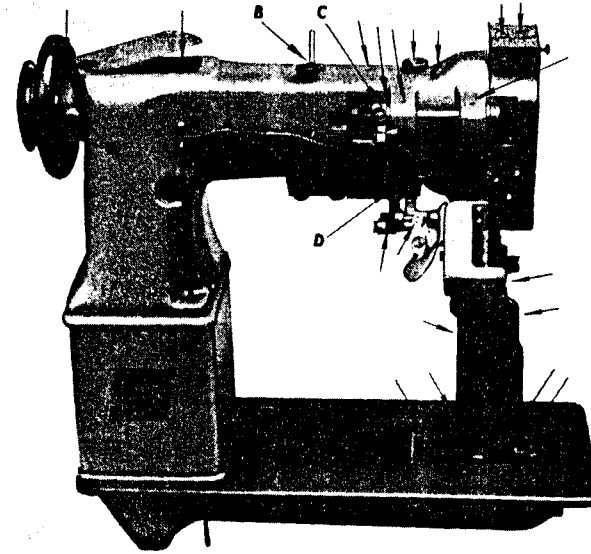
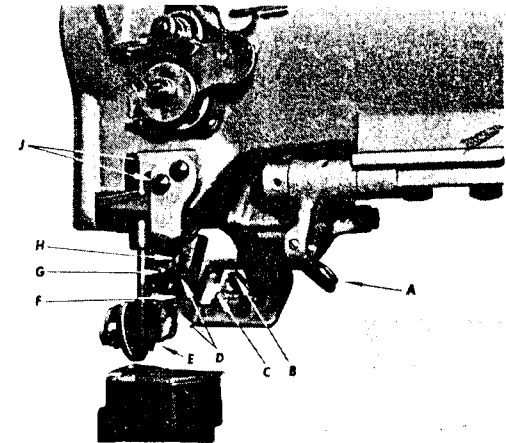

Fig. 12. Back View of Machine, Showing Oiling Points
Fig. 15. Adjustments on Trimmer
The pressure on the material is regulated by the hexagon screw (B, Fig. 12) at the back of the machine, the screw acting on a flat spring. To increase the pressure, turn the screw downwardly. To decrease the pressure, turn the screw upwardly.
The knife (C, Fig. 15) should be set so that its cutting edge presses against the cutting edge of the throat plate to ensure making a shear cut.
The sidewise adjustment of the knife is made by loosening the screw (B, Fig. 15) and moving the knife to the right or left, as may be required, after which tighten the screw (B).
To throw the knife out of action, release the knife unlocking lever (A, Fig. 15) by pressing it between the thumb and forefinger of the right hand and move the knife driving arm as far back as it will go.
The knife (C, Fig. 15) should be timed so that it is at its most forward position toward the operator and 1/32 inch in front of the needle when the needle bar is at its lowest point. In case the knife is not correctly timed, loosen the screw (C, Fig. 12) at the back of the machine and raise or lower the knife driving connection (D, Fig. 12), as may be required, then tighten the screw (C).
The edge guide (E, Fig. 15) can be adjusted so that the knife will trim the edge of the under ply of material from flush up to 1/8 inch under the edge of the upper ply. To change the distance from the edge of the upper ply to the line of stitching, loosen the two screws (J, Fig. 15) and move the edge guide bracket to the right or left, as required, then tighten the two screws (J).
The edge guide should be adjusted to a height that will permit the knife to pass freely under it, the edge guide lightly touching the top of the knife. This adjustment is made by loosening the two screws (D, Fig. 15) and raising or lowering the edge guide position plate (F, Fig. 15), as required, then tighten the two screws (D).
To disengage the edge guide (E, Fig. 15), raise the lifting pin (G, Fig. 15) until it locks. To re-engage the edge guide, push the latch (H, Fig. 15) to the left, which will release the guide.